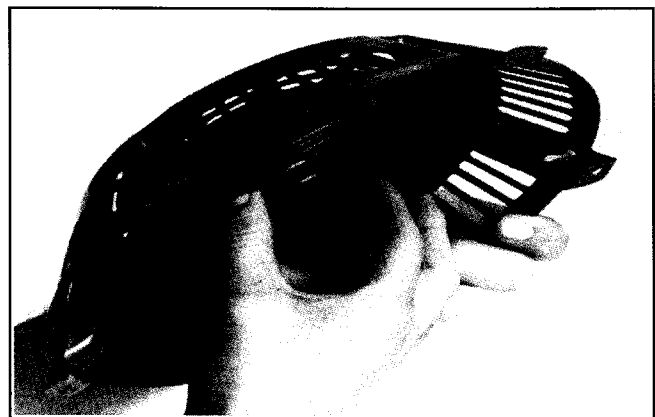

Figure 7-7. Removing Pulley from Housing.
7. Rotate the pulley slightly from side to side and carefully separate the pulley from the housing. See Figure 7-7.